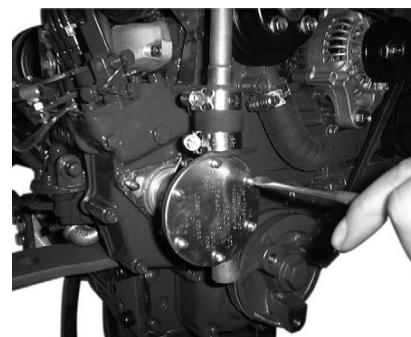

Fig. 2h
(1) It is very important that the correct sea water flow is maintained to cool the closed circuit system of the engine. The key component in this system is the sea water pump impeller. This should be checked every year by removing the circular plate (see fig. 2h).
(2) Withdraw the rubber impeller from its drive shaft as shown. See diagram 2i.
(3) Check impeller for cracks in the rubber, excessive wear or lost vanes. Replace with a new impeller as necessary.